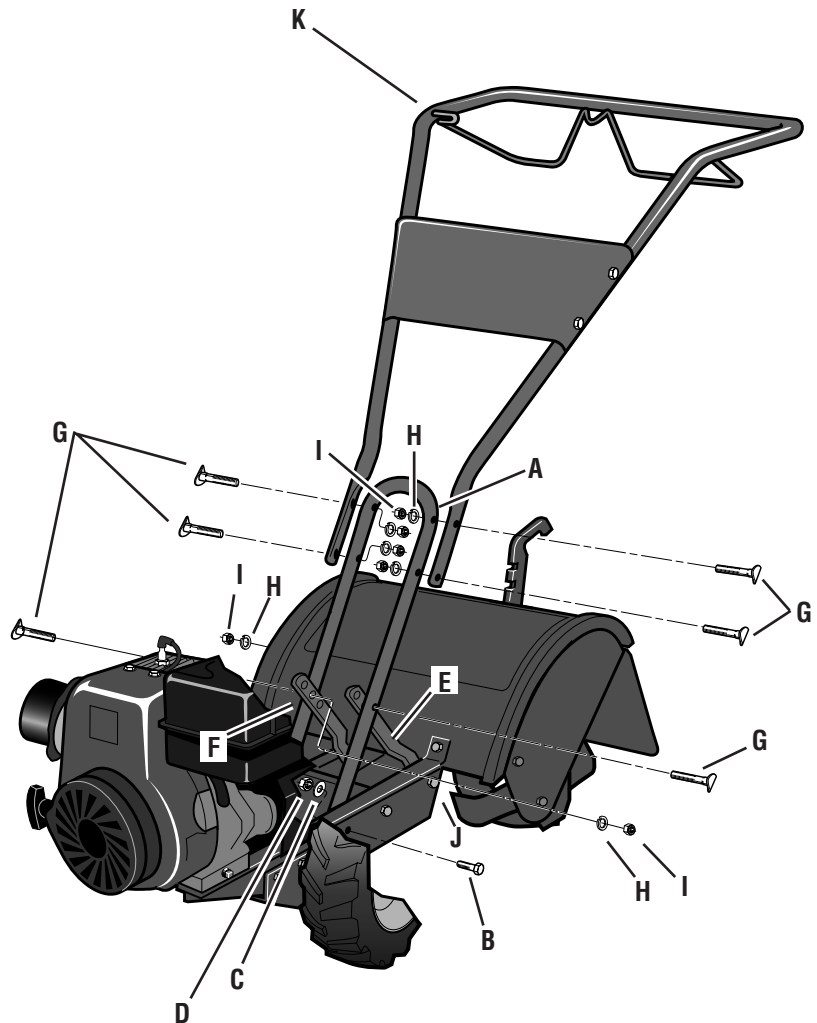

Fig. 2-2: Attach handlebar.
| 1 | Handlebar Support (see A, Fig. 2-2, page 7) |
| 1 | Handlebar Assembly (see K, Fig. 2-2) |
1. Attach the two legs of the handlebar support (A, Fig. 2-2) loosely to the inner sides of the tiller frame using two 3/8"-16 x 3/4" hex hd. screws (B), 3/8" flat washers (C) and 3/8"-16 hex locknuts (D).
2. Using the middle holes in the handlebar support brackets (E and F, Fig. 2-2), loosely attach the support brackets to the handlebar support (A) using two 5/16"-18 x 1-1/2" curved hd. screws (G), 5/16" split lockwashers (H) and 5/16"-18 hex nuts (I). NOTE: If a support bracket will not move, loosen attaching screw (J) and nut.
3. Attach the handlebar assembly (K) to the handlebar support (A) using four 5/16"-18 x 1-1/2" curved hd. screws (G), 5/16" split lockwashers (H) and 5/16"-18 hex nuts (I). Tighten the four screws securely.